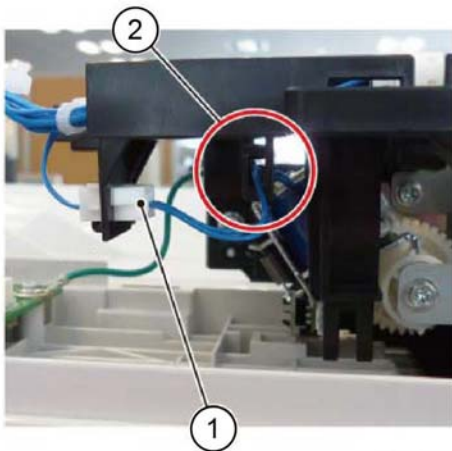

Figure 3 Solenoid harness
6. Disconnect the solenoid, Figure 3:
- Disconnect the connector (1).
- Remove the harness from the harness guide (2).